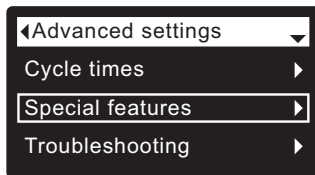

FIG. 89
3. Press the SELECT (O) button to display the Advanced settings menu (See Figure 89).